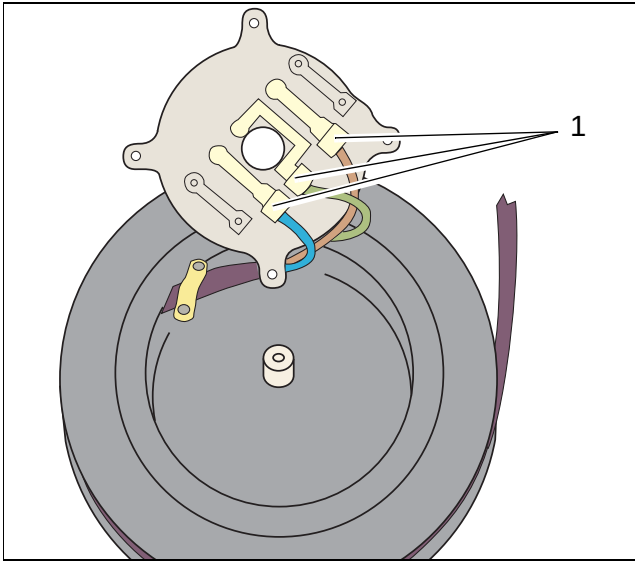

Fig. 6
- Remove the connection plate and disconnect the mains cable (pos. 1 / Fig. 6).